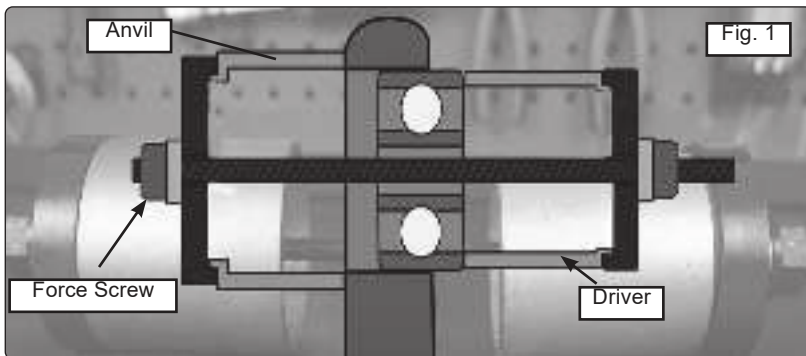

Fig. 1 Principle of Operation
4.1. BUSH / BEARING REMOVAL (fig. 1 fig.2)
- 4.1.1. Select suitable diameter Force Screw and Press Sleeve diameters, one for Anvil and one for Driver (see fig.1) for the job in hand.
4.2. BUSH / BEARING INSTALLATION (fig. 1 fig.2)